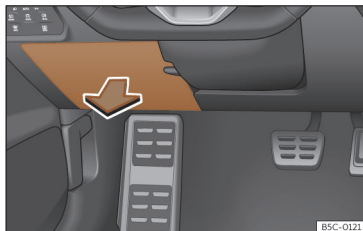

Fig. 47 On the driver's side dashboard: fuse box cover.
- *Open*: fold the cover down»» Fig. 47.